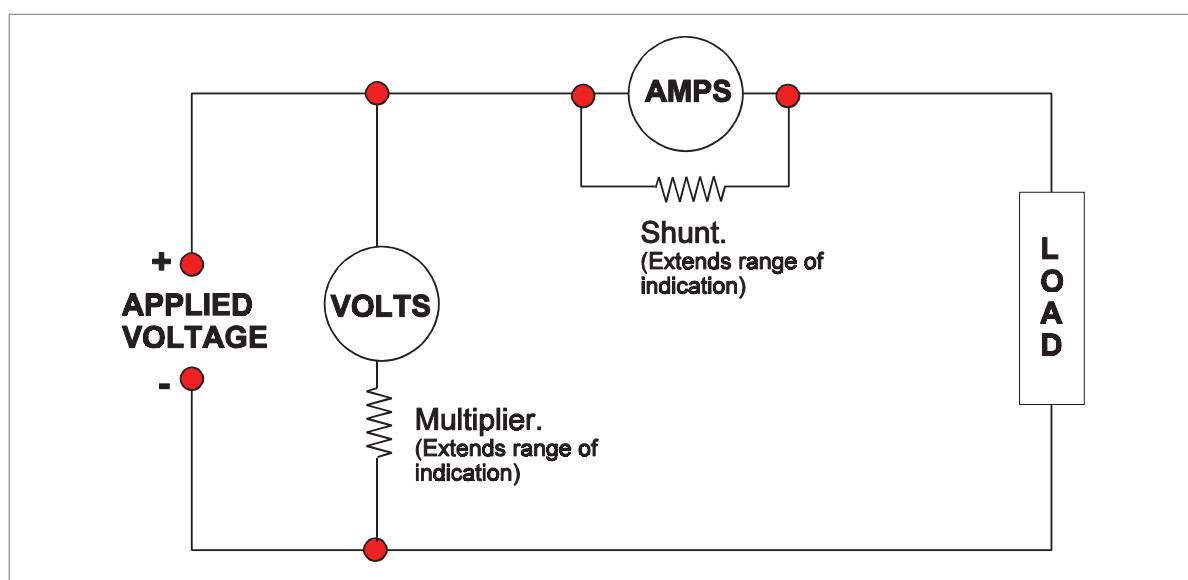

Figure 8.6 Ammeter and voltmeter connections
**Figure 8.6** shows both how current is measured with an ammeter placed in the current flow so that it measures the current flowing through it and how EMF and pd are measured with a voltmeter connected to the two points between which the potential difference is to be measured.